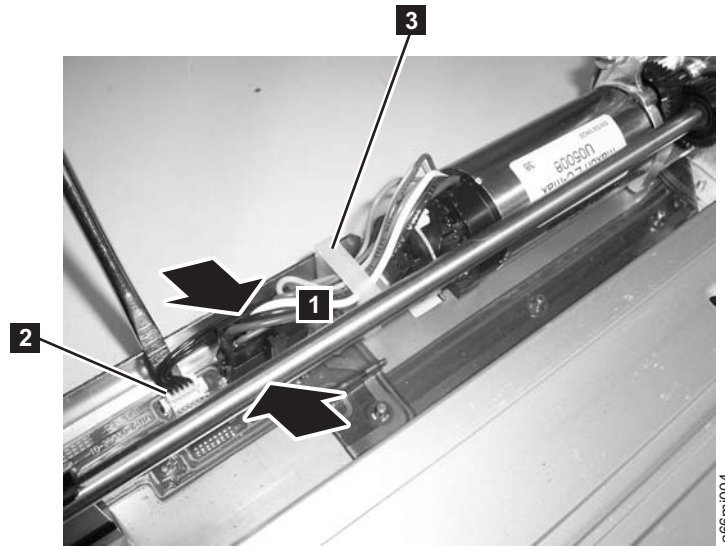

Figure 8-54. Y motor connector
5. See Figure 8-54 on page 8-57. Remove the large black connector.
- a. Pinch the latch (**1** in Figure 8-54 on page 8-57) on the cable connector.
6. Use a small flat blade screw driver to pry up the small white connector (**2** in Figure 8-54) gently working the screw driver blade along the entire outside edge of the connector.